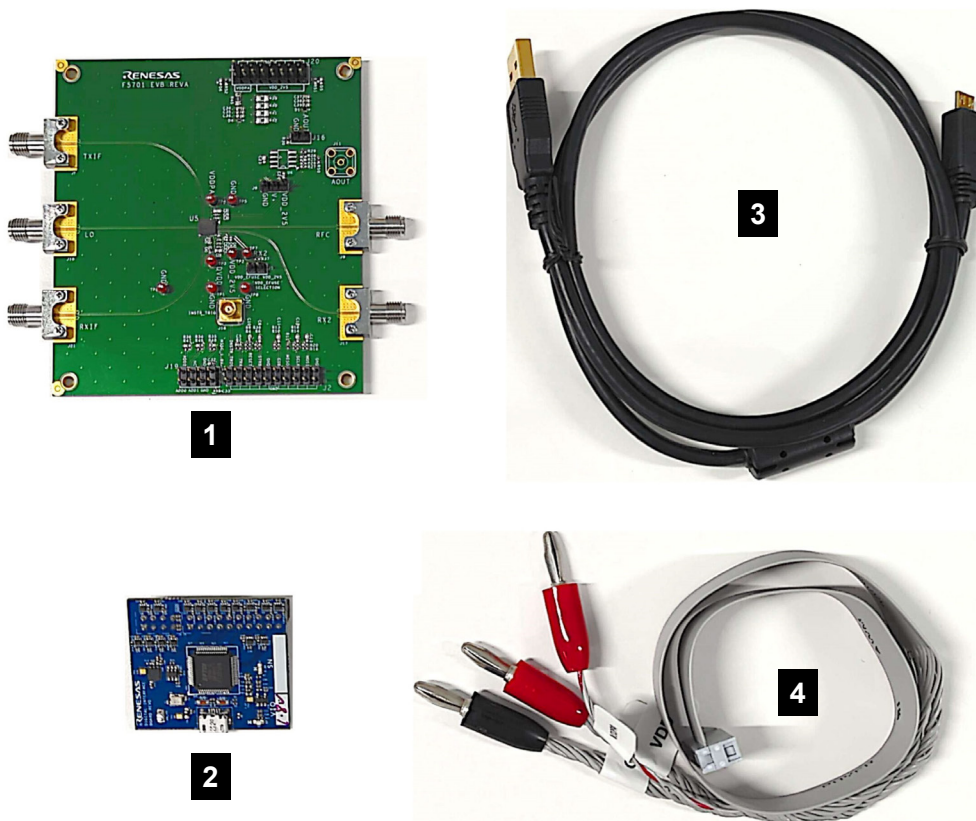

Figure 1. Evaluation Kit Contents
- F5701 evaluation board (Figure 1, item 1)
- FT2232HL interface board (Figure 1, item 2)
- USB-to-Micro USB cable (Figure 1, item 3)
- 16-pin supply cable (Figure 1, item 4)